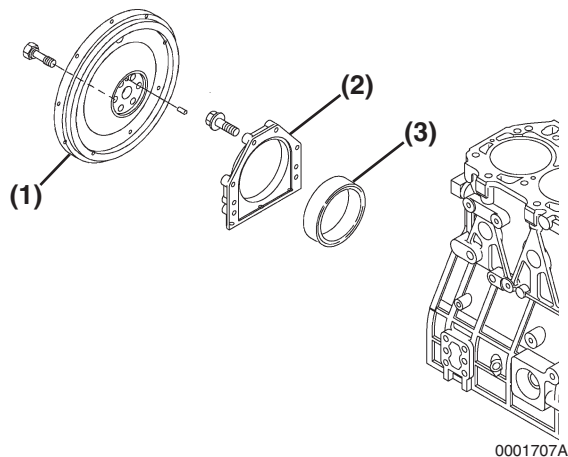

Figure 6-101
1. Remove the flywheel (**Figure 6-101, (1)**) from the crankshaft.
2. Remove the bolts from the rear oil seal assembly (**Figure 6-101, (2-3)**). Remove the assembly from the engine.